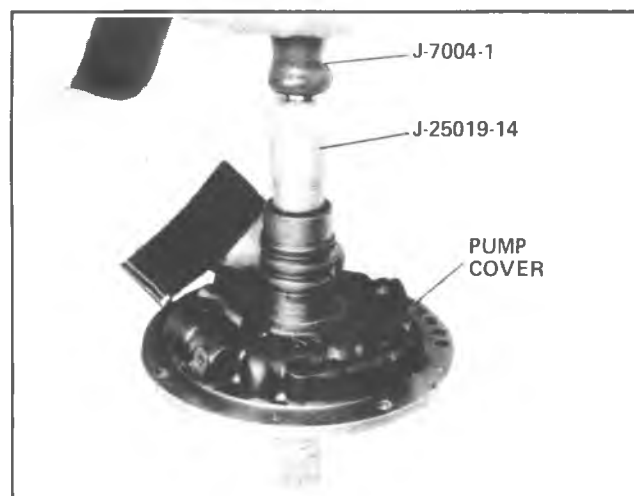

Fig. 7A-170A—Removing Pump Cover Bushing - Rear
2. Using tool J-25019-2 with Driver Handle J-8092, drive or press new bushing into place until tool bottoms (Fig. 7A-169A).